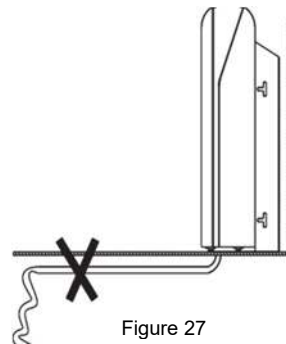

Figure 27
- (3) Avoid draining as shown in figure 27, 28, 29 and 30